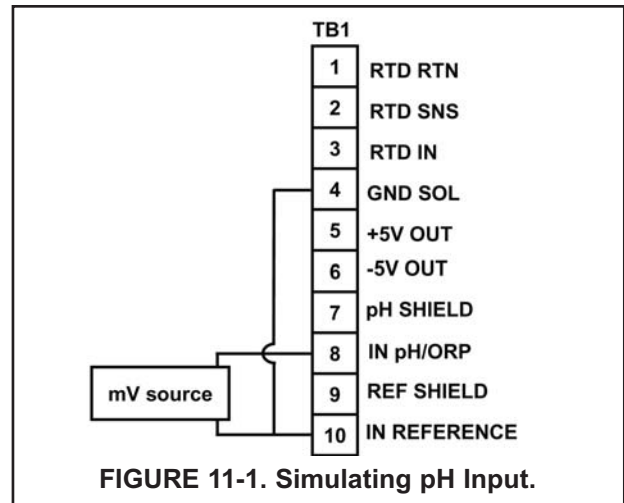

FIGURE 11-1. Simulating pH Input.
4. If a standard millivolt source is available, disconnect the jumper wire between IN REFERENCE and IN pH and connect the voltage source as shown in Figure 11-1. Be sure to jumper the IN REFERENCE and GND SOL terminals.